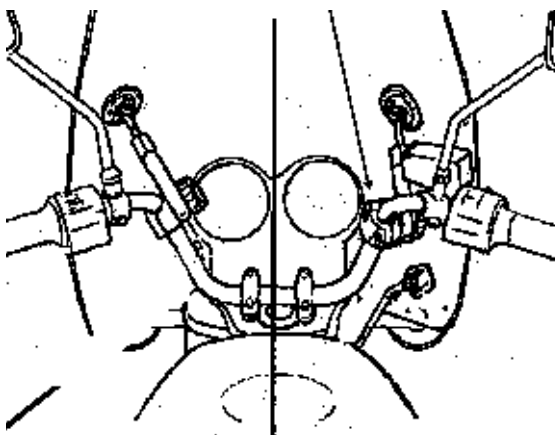

Figure 3.
6. Hold windshield to motorcycle and determine where to locate pivot mounts by positioning the telescope brackets to the handlebars. Try to achieve as closely as possible: Figure 3.